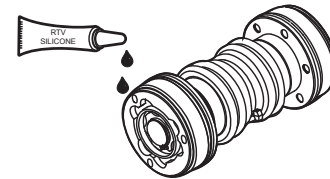

Figure 37. Applying RVT Silicone
3. Apply a thin coat of RVT silicone to the mating surfaces of the CV-joint (Figure 37) and left-side gearbox coupler.